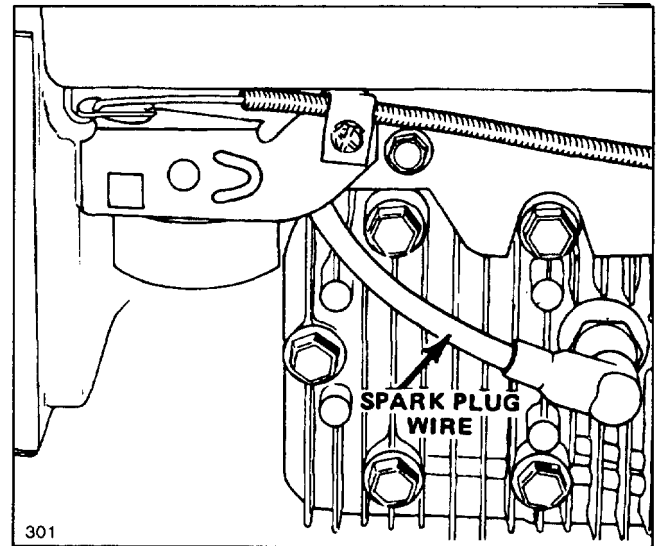

Figure 12
2. Push spark plug wire onto spark plug (Fig. 12).
1. Stop engine and pull wire off spark plug (Fig. 12).
1. Stop engine and pull wire off spark plug (Fig.12).
1. Stop engine and wait for engine to cool. Pull wire off spark plug (Fig. 12).